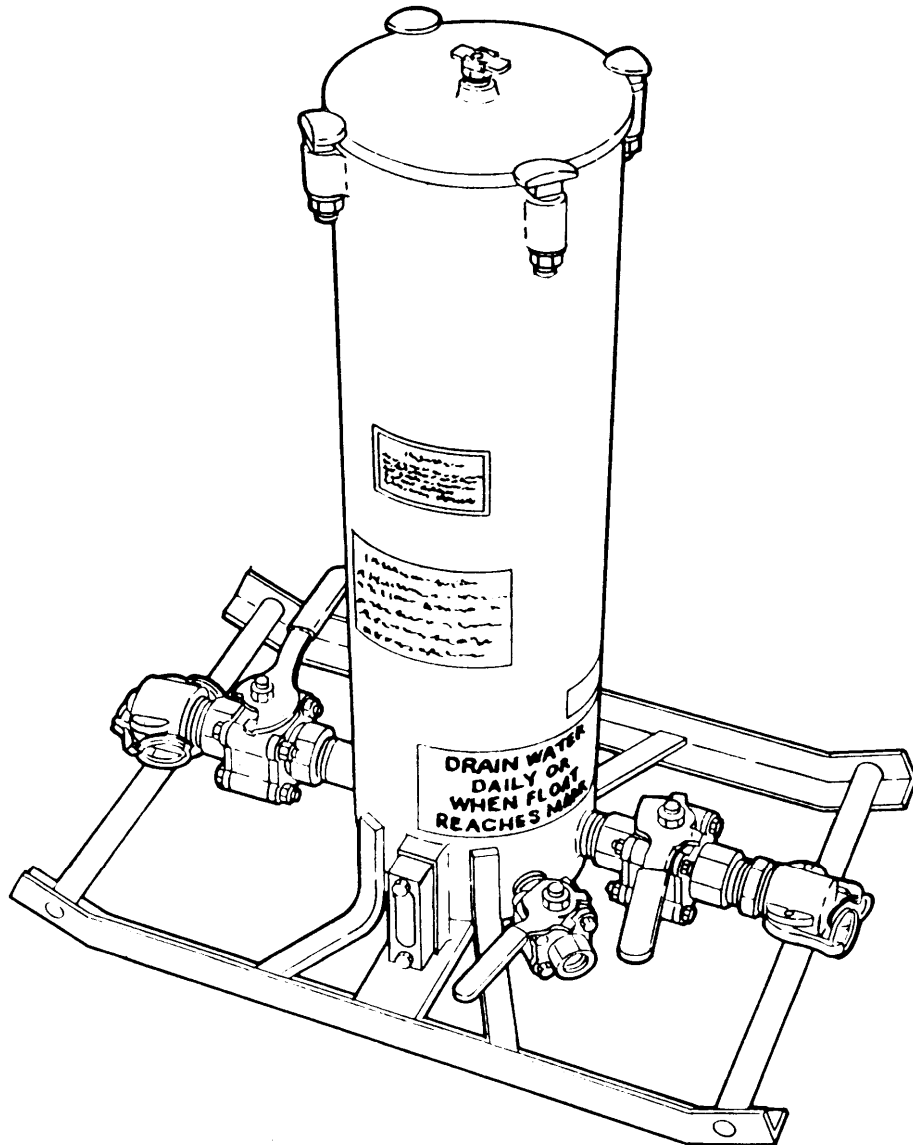

Figure 1-1. Filter/Separator, Liquid Fuel, Skid Mounted 15 GPM Capacity.
a. Type of Manual This manual provides operator and unit maintenance instructions for Filter/Separator, Liquid Fuel, Skid Mounted, 15 GPM Capacity NSN 4330-00-438-1460 (figure 1-1). This manual also provides a Repair Parts and Special Tools List in Appendix F.